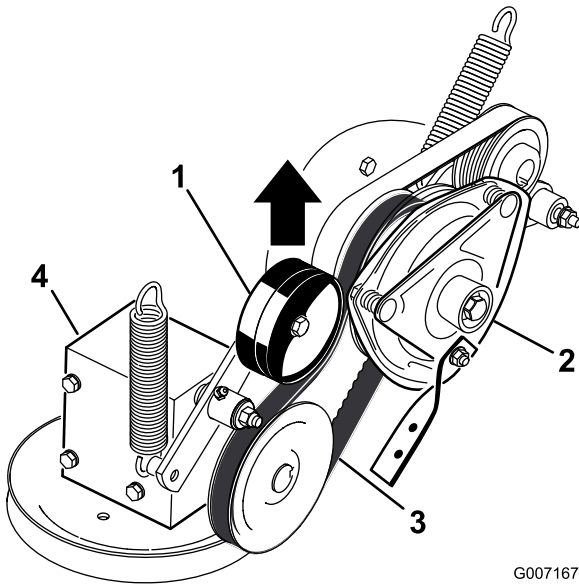

Figure 61
4. Pull up on the spring loaded idler pulley for the PTO-drive belt and remove the belt from the clutch pulley (Figure 61).
16. Pull up on the spring loaded idler for the PTO drive belt and install it onto the clutch pulley (Figure 61).